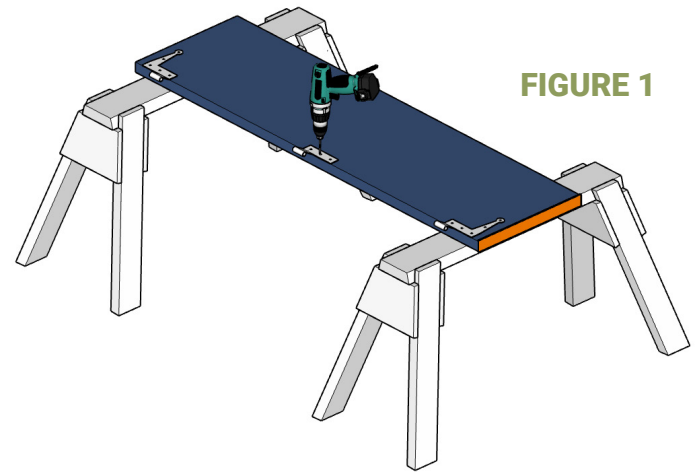

FIGURE 1
2. If applicable, apply construction adhesive to shutter cap and place cap firmly against top of shutter. Apply pressure and allow cure time. Fasten hinges even with the outside edge of shutter. Pre-drilling holes is recommended. (Figure 1). Use caution not to drill all the way through shutters.